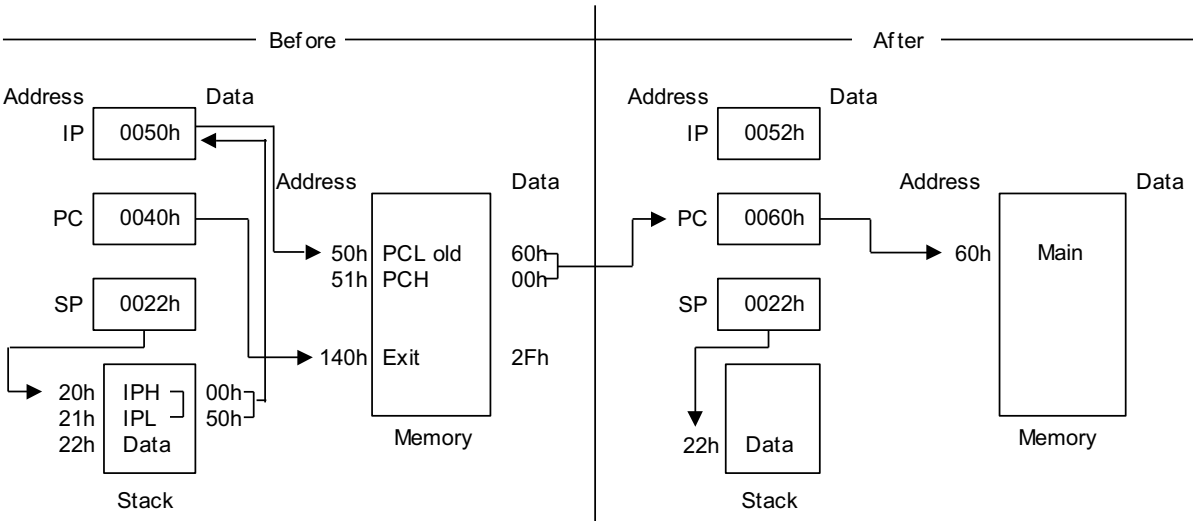

Figure 49. How to Use an EXIT Statement
**Example** Figure 49 shows an example of how to use an *EXIT* statement.